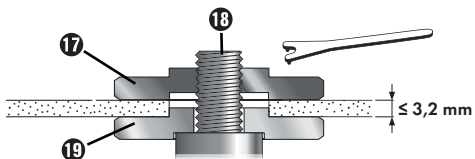

Fig. 1
**With thin grinding discs (see fig. 1):**